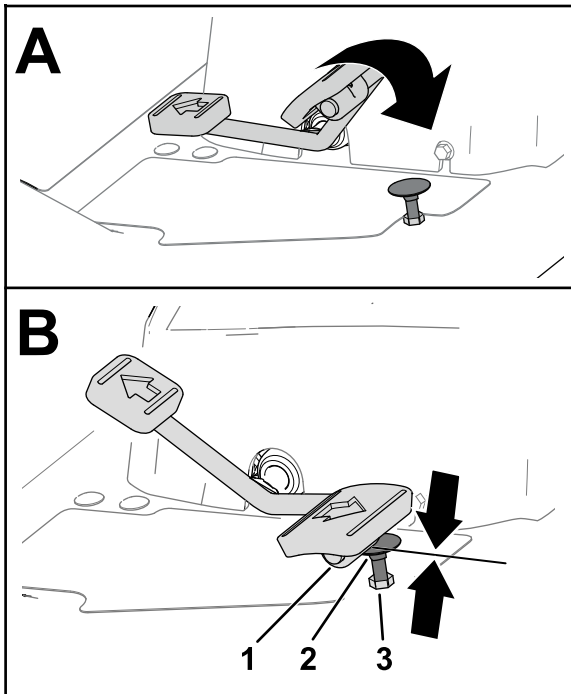
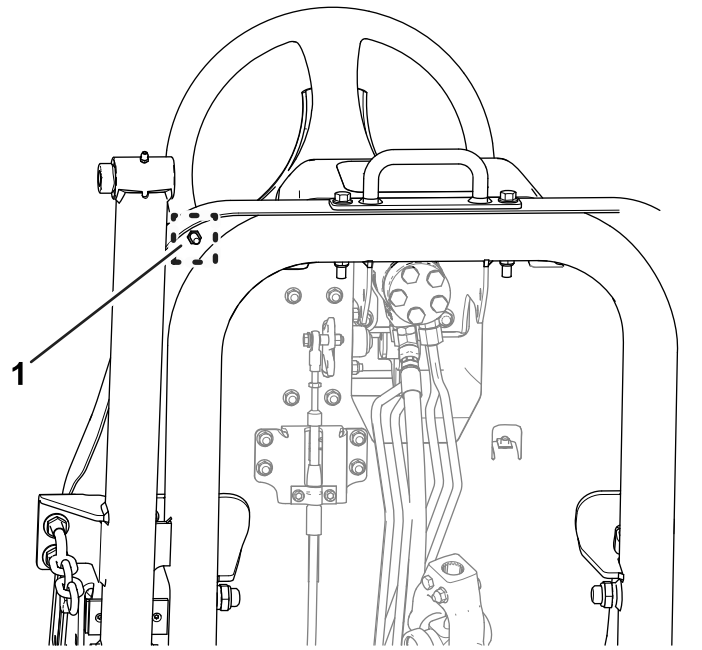

Figure 79
Figure 80
1. Move the traction pedal fully forward (Figure 79).
- A. Hold the traction-pedal stop (Figure 79) with a wrench.
- B. Loosen the jam nut at the bottom of the footrest plate (Figure 80).
- C. Move the traction pedal to the full forward position (Figure 79).
- D. While holding the traction-pedal stop, adjust the jam nut that is above the footrest plate (Figure 79) until the traction pedal makes contact with the stop.
- F. While holding the traction-pedal stop, torque the jam nut at the bottom of the footrest plate (Figure 79 and Figure 80) to 37 to 45 N·m (27 to 33 ft-lb).